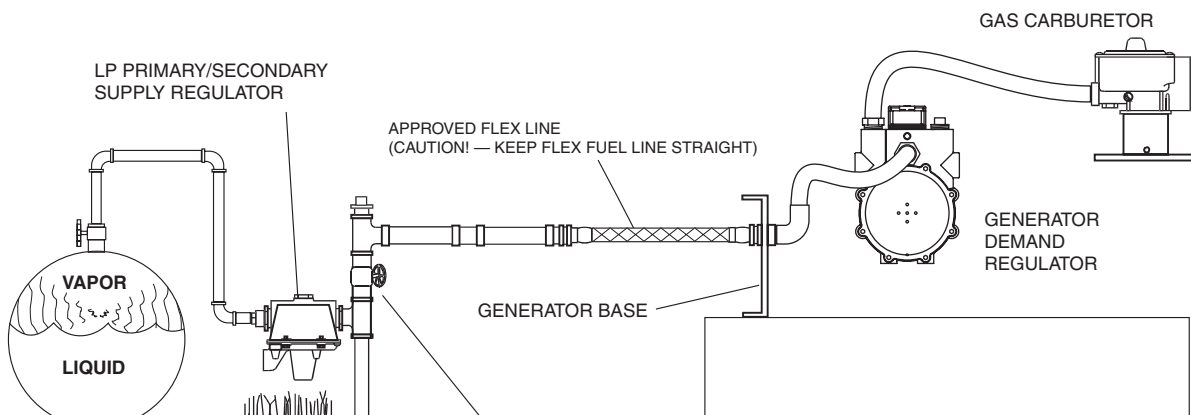
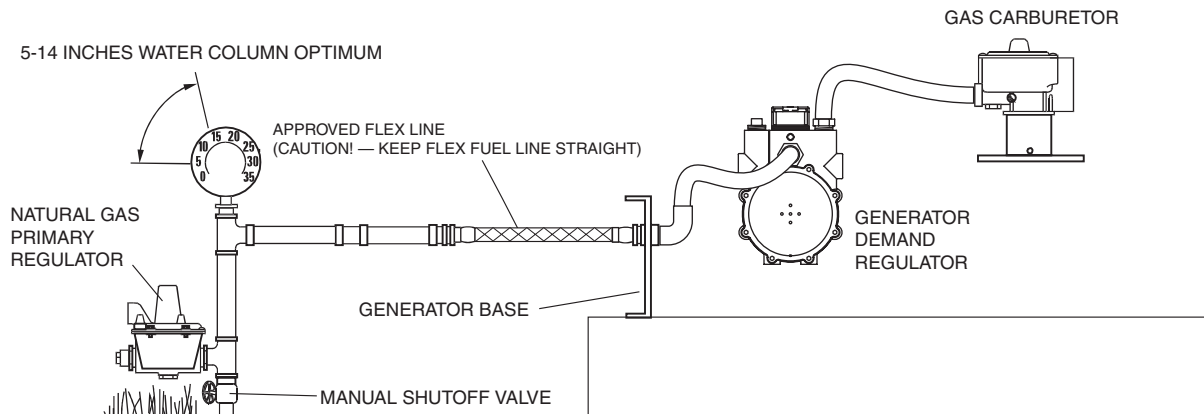

Figure 7. Typical LP Gas Fuel System
Figure 8. Typical Natural Gas Fuel System
- For propane (LP) gas fuel systems, only a "vapor withdrawal" type supply system should be used on prepackaged units. The vapor pressure must be high enough to sustain engine operation.
- A schematic diagram of a simple propane (LP) gas vapor withdrawal system is shown in Figure 7. A typical natural gas fuel system is shown in Figure 8.